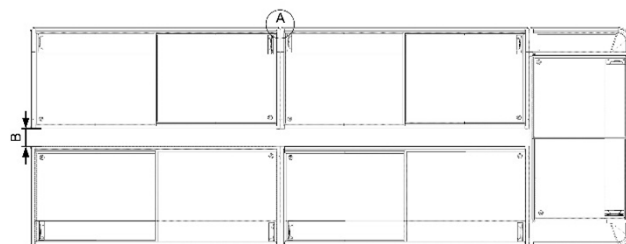

Fig. 5: Minimum distances with block installation
- Minimum distance with block installation (see → Fig. 5.)